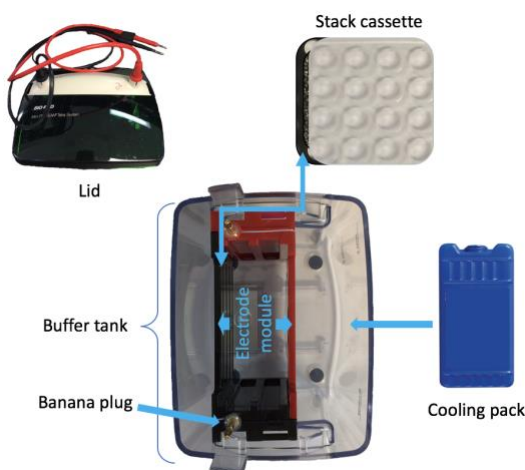

Figure 5. Mini-Protean Tetra components
1. Assemble the Mini-Protean Tetra System apparatus (Refer to **Figure 5** for component identification).